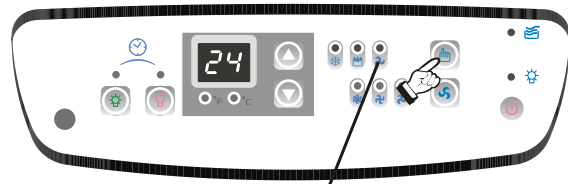

Fig. 17
- 2) Press the **MODE** key until the **FAN** indicator light comes on (Fig.17). Each depression of the **MODE** key will advance to a different mode setting (**Cool-Dry-Fan**).